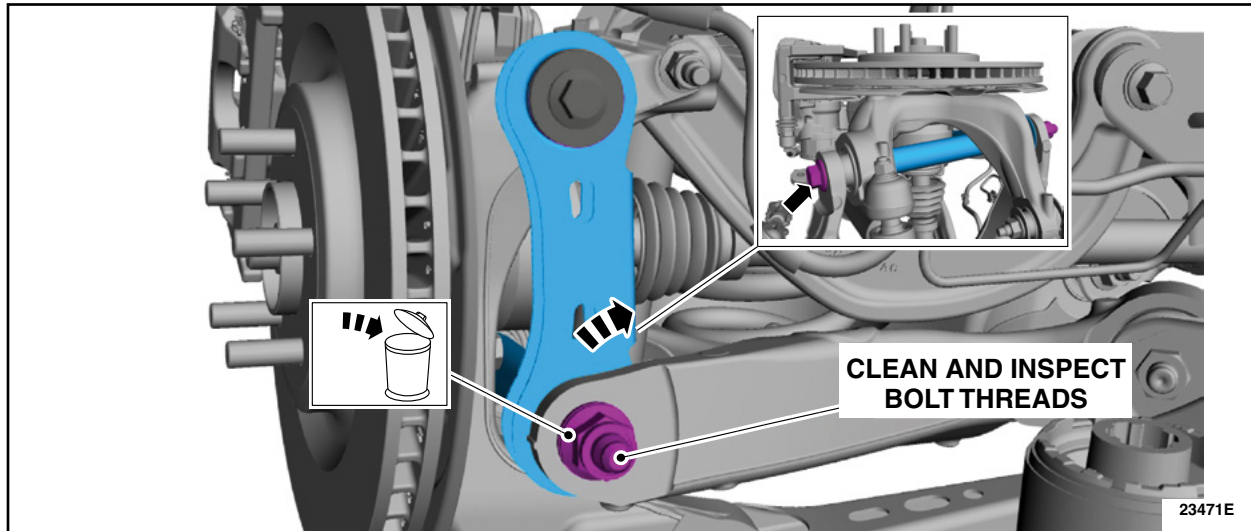

FIGURE 5
9. Remove and discard the *LH rear* lower arm vertical link lower nut. Then, remove, clean and inspect the *LH rear* lower arm vertical link lower bolt threads. If the threads are not damaged, apply LOCTITE® 263™, or equivalent (Obtain locally), and reuse the bolt and order a *new* nut. If the threads are damaged order a *new* nut and bolt. See Figure 5.